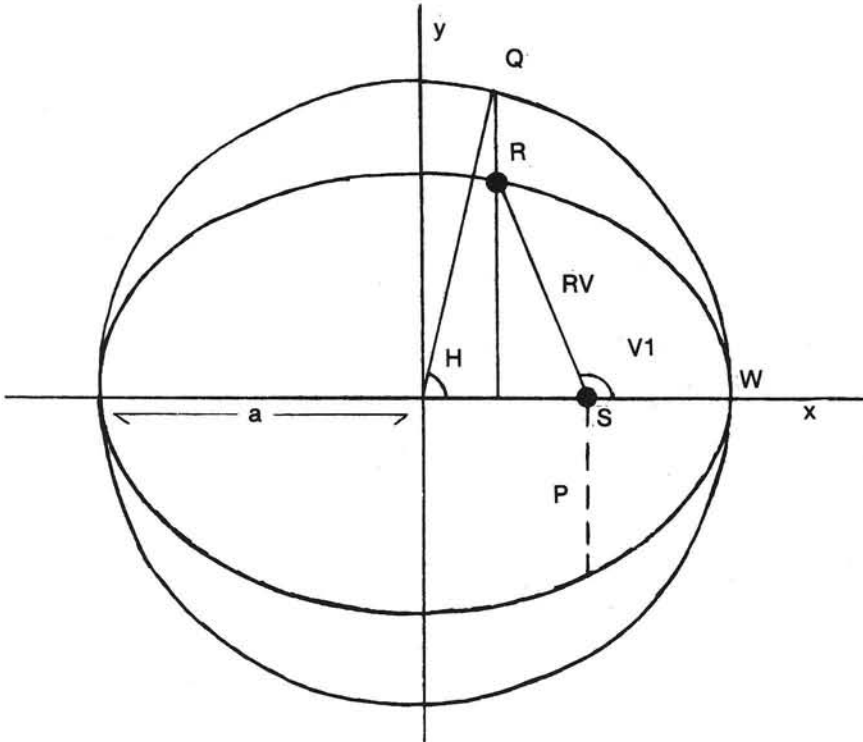

Figure 2
axis,  $e$  the eccentricity of the ellipse ( $c/a$ ) and  $H$  (figure 2), the angle in RADIANS from the center of the ellipse to point  $q$ . Point  $q$  being on a circle of radius  $a$ , intercepted by a perpendicular line from the major axis going thru point R to the circle.
we get the angle V1 that the planet lies in relation to the sun (figure 2). The value P in equation (4) being a perpendicular line from the focus to the ellipse and equal to  $a(L-e^2)$ . By increasing angle A at the daily rate we get the X,Y coordinates for each day and plot it on the screen.